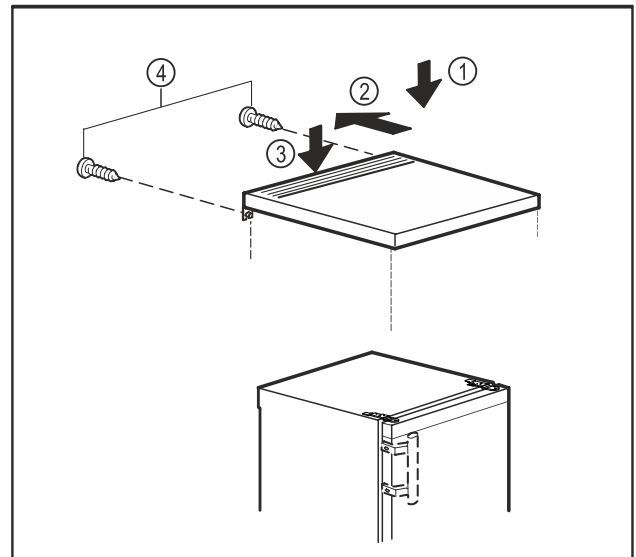

Fig. 11
- Place the table top on the appliance. Fig. 11 (1)
- Push the table top backwards. Fig. 11 (2)
- Press the table top down at the back. Fig. 11 (3)
- Tighten the screws on the rear end. Fig. 11 (4)